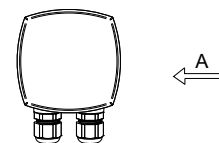

Figure 1 Installation direction in duct (A = air flow direction)
4. Place the DTTC/DTTHC transmitter in the duct with the cable glands perpendicular to the air flow direction. See *Figure 1*.